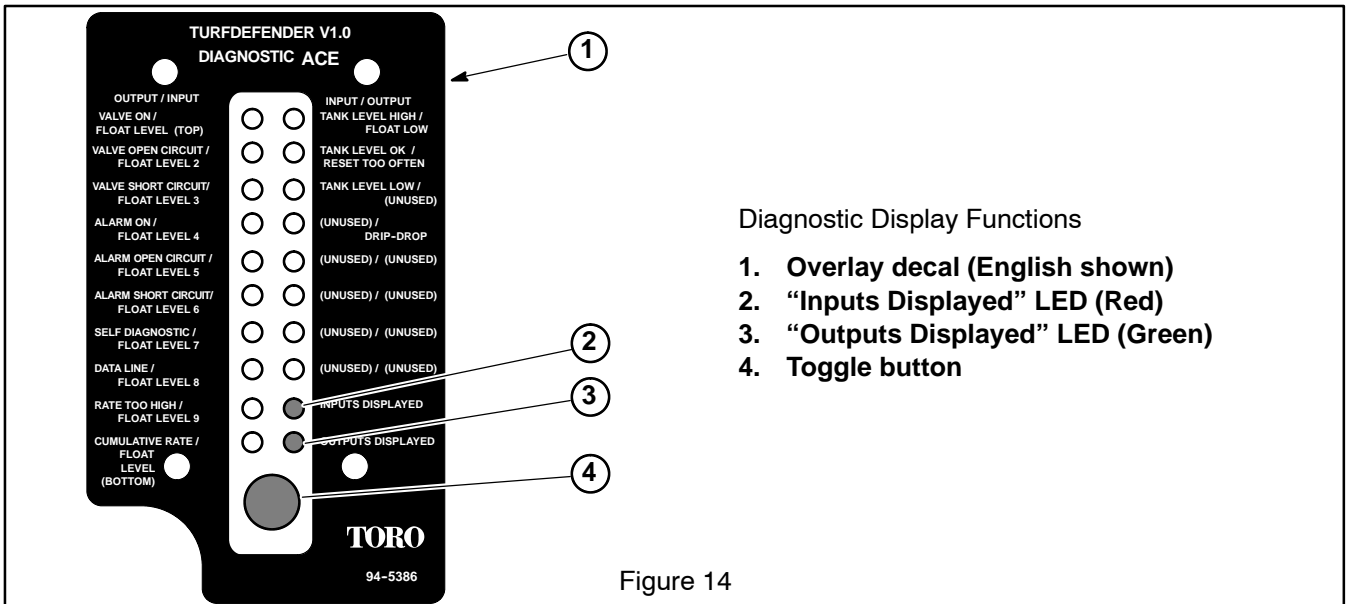

Figure 14
5. The red "Inputs Displayed" LED (Light Emitting Diode), on lower right column of the Diagnostic Display, should be illuminated (Fig. 14). If green "Outputs Displayed" LED is illuminated, press and release the toggle button, on the Diagnostic Display, to change LED to "Inputs Displayed". **Do not hold toggle button down.**